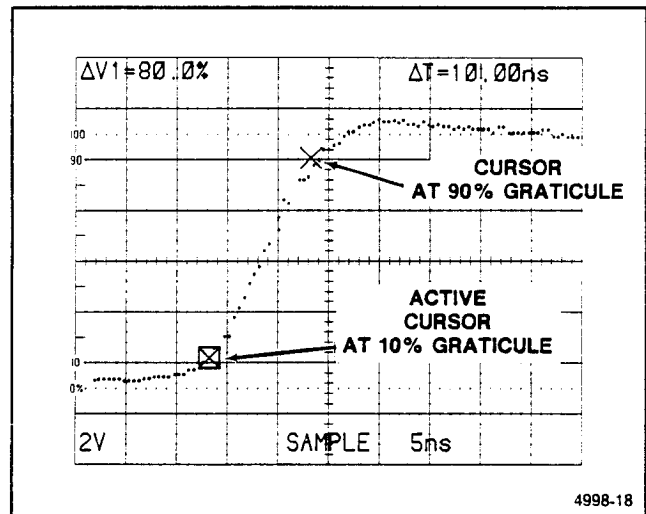

Figure 6-16. Rise time, cursor method.
9. Push the SELECT C1/C2 button to select the other cursor, and use the CURSORS control to move the active cursor up the waveform's leading edge until the ΔV readout is 80% (see Figure 6-16).